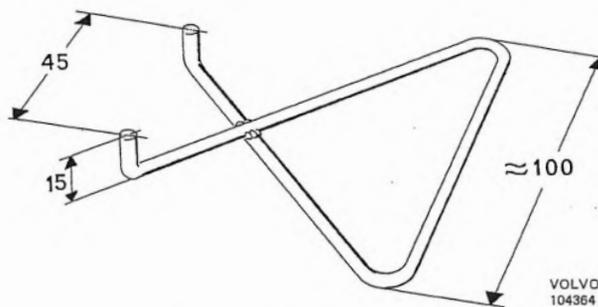
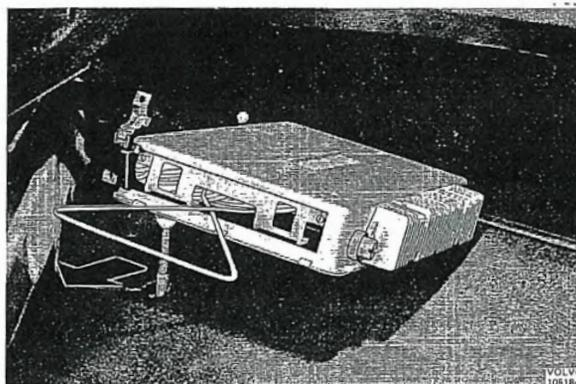

Fig. 2-95. Puller for plug contact
Fig. 2-96. Removing plug contact
5. Make a puller like the one shown in Fig. 2-95. Hook in the puller, see Fig. 2-96, and pull out the plug contact carefully.